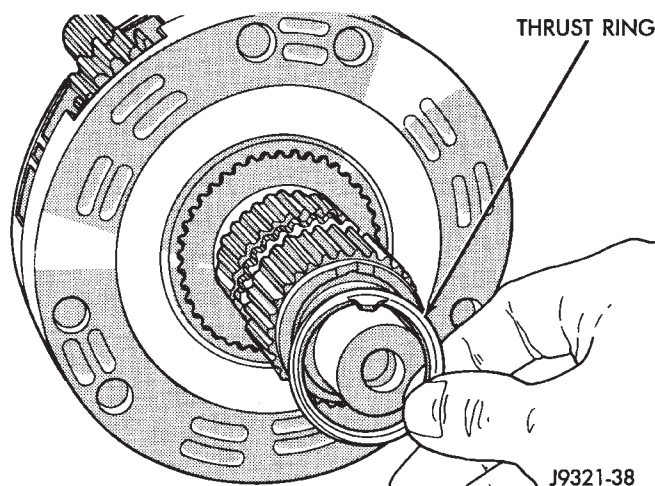

Fig. 38 Removing Thrust Ring
(2) Remove thrust ring (Fig. 38).